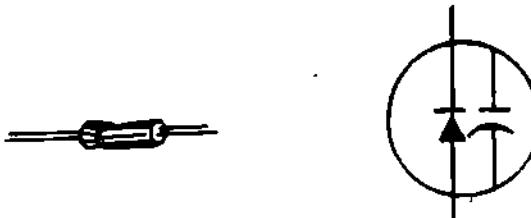

Figure 22
(24) An illustration and schematic symbol of a varactor are shown in Figure 22.